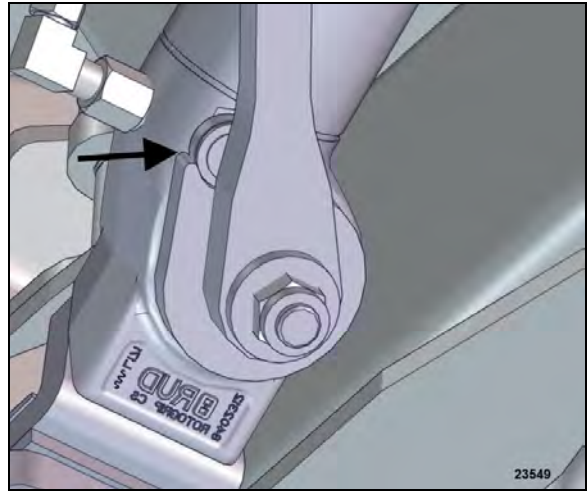

FIGURE 34: CAM STOP – CLEAN AND LIGHTLY LUBE
8. Clean the mechanical cam stop of the arms and lubricate with a lite oil (FIGURE 34).